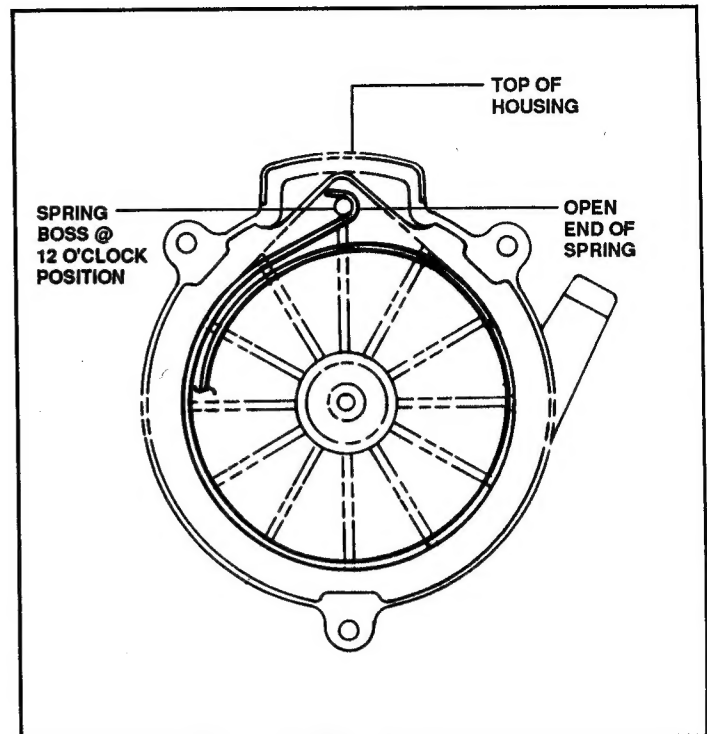

FIGURE 13
9. Gently install spring into housing. Ensure that spring is flush on housing floor. The open end of the spring should go around the boss, located at the 12 o'clock position, and face away from the rope. See Figure 13.